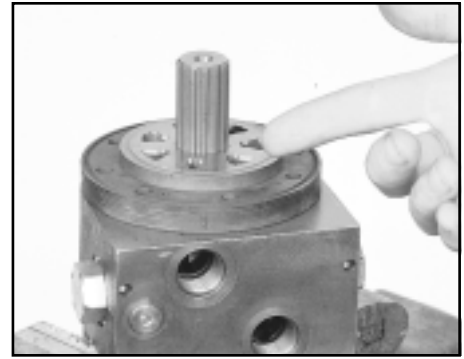

Figure A15
18. Place the valve plate, with the seven port window's sharp edge facing the commutator plate, over the splines of the shaft. The plate should be positioned one tooth off the opposite end valve plate when viewing valve plate port timing with respect to the commutator plate. SEE FIGURE A15.